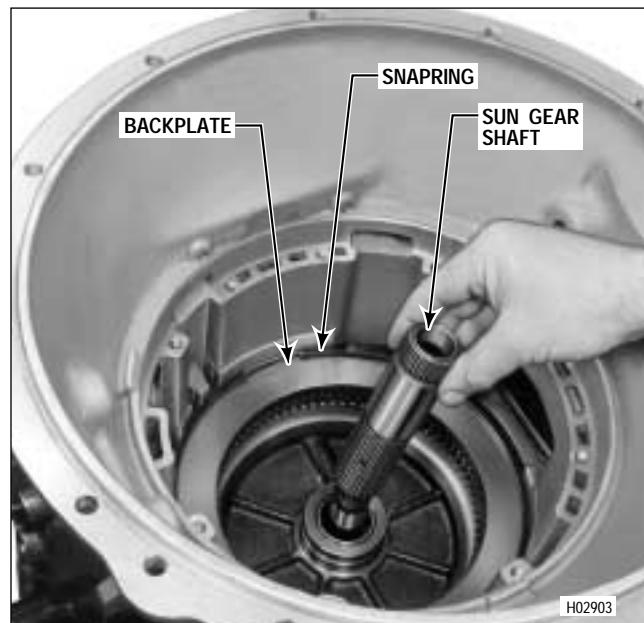

Figure 5–16. Removing Sun Gear Shaft Assembly
(1) Remove the snapring that retains the center support assembly (Figure 5–17). This is a selective thickness snapring.
(2) Install center support lifting bracket J 23643 into the recess between the hook-type sealings on the center support hub (Figure 5–18).